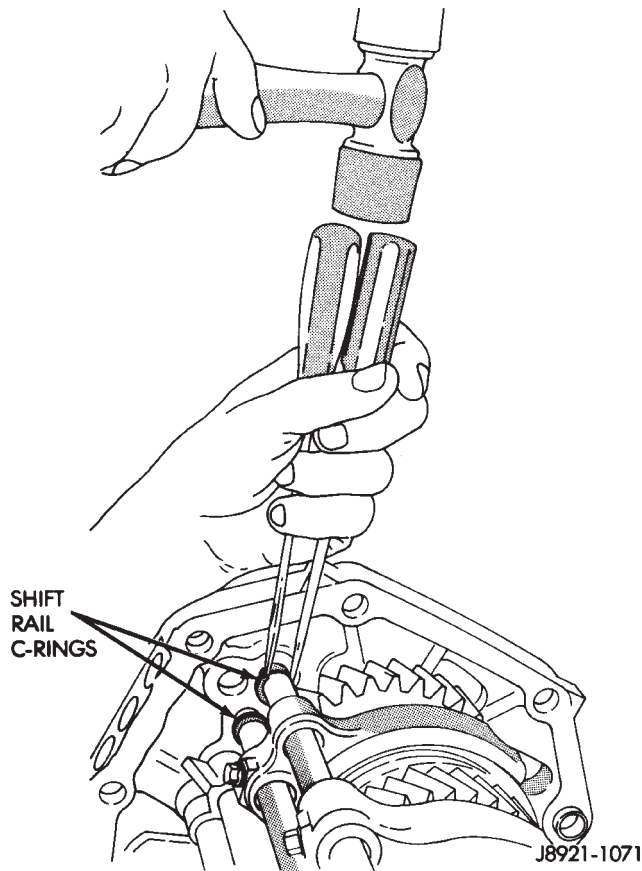

Fig. 69 Remove Shift Rail C-rings
- (21) Remove the 1-2 and 3-4 shift rail c-rings using two equally sized screwdrivers (Fig. 69).